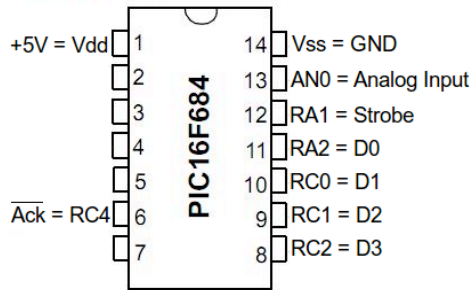
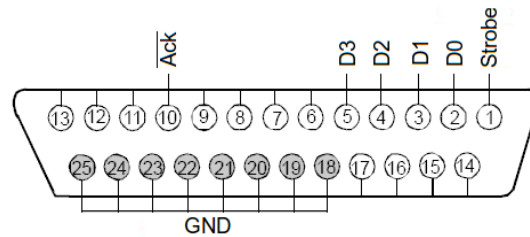

Figure 1. PIN Assignment of PIC
Figure 2. Pin Assignment on Parallel Port
The PIC microcontroller on the sensor device is connected to the embedded computer through the parallel port. A viable pin assignment is shown in Figure 1 although there can be certainly other possible assignments. Over the parallel port, six signal lines (D3-D0, Strobe and Ack*) are available for us as illustrated in Figure 2. The data bus (D3-D0) is **4-bit**. Control signals include **Strobe** and **Ack***.
2. Wire up the sensor device with the parallel port following the pin assignment shown in Figures 1 and 2.